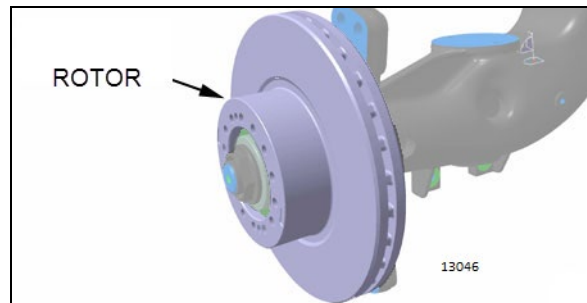

FIGURE 30: ROTOR
16. Secure hub flange and rotor to unitized hub bearing using 14 new cap screws (single-use only). Refer to FIGURE 30 for tightening sequence.